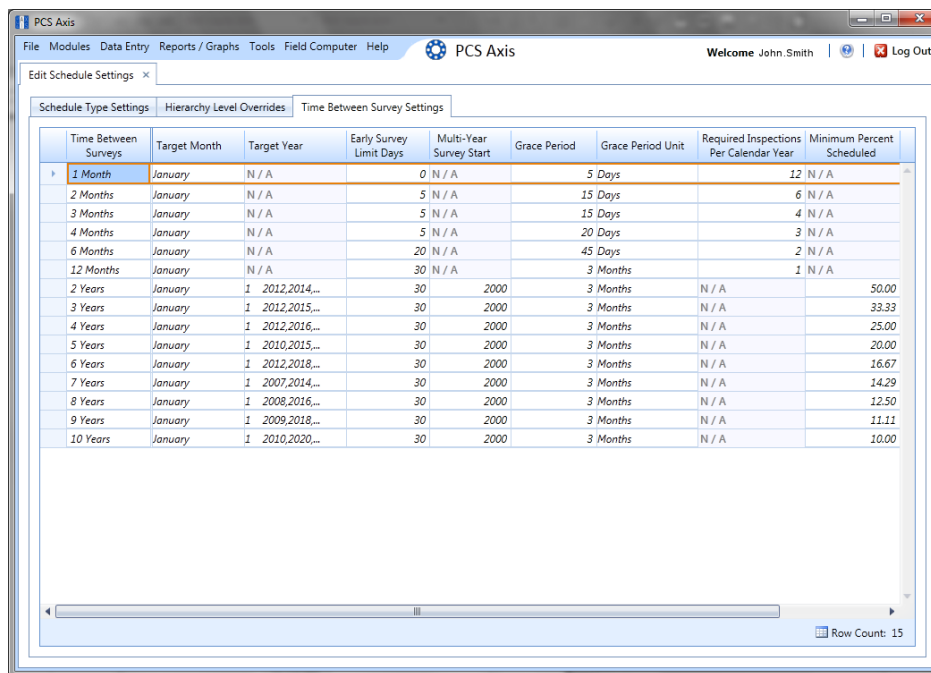

Figure 8-3. Time Between Survey Settings
- 2 Click **Data Entry > Edit Schedule Settings > Time Between Survey Settings** tab (Figure 8-3).